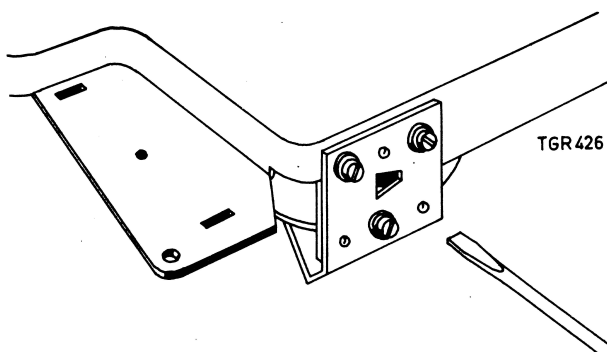

Fig. 1
- . Loosen the three screws by means of which the lower bearing bracket of the flywheel is fitted to the mounting plate, see Fig. 1.
Note : When fitting the lower bearing bracket 67 of the flywheel, make sure that the cord groove of the flywheel 66 and that of the winding friction 63 are aligned. The height of the flywheel can be adjusted as shown in Fig. 1, by means of a screwdriver via the triangular opening in bearing bracket 67.
- . Loosen the three screws by means of which the lower bearing bracket of the flywheel is fitted to the mounting plate. See Fig. 1.
The height of the flywheel can be adjusted as shown in Fig. 1 by means of a screwdriver via the triangular opening in bearing bracket 67.